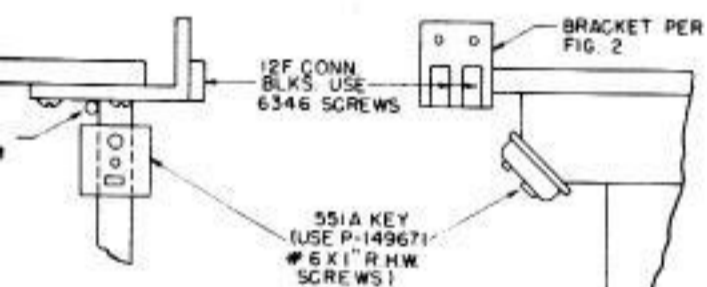

FIG. 8
- 1 special bracket as described in Figure 8.
4.03 Fasten the modified counter to the special bracket (Figure 2 for 19A tables, Figure 8 for metal tables) using two TP1245 screws and two TP2382 lock washers.